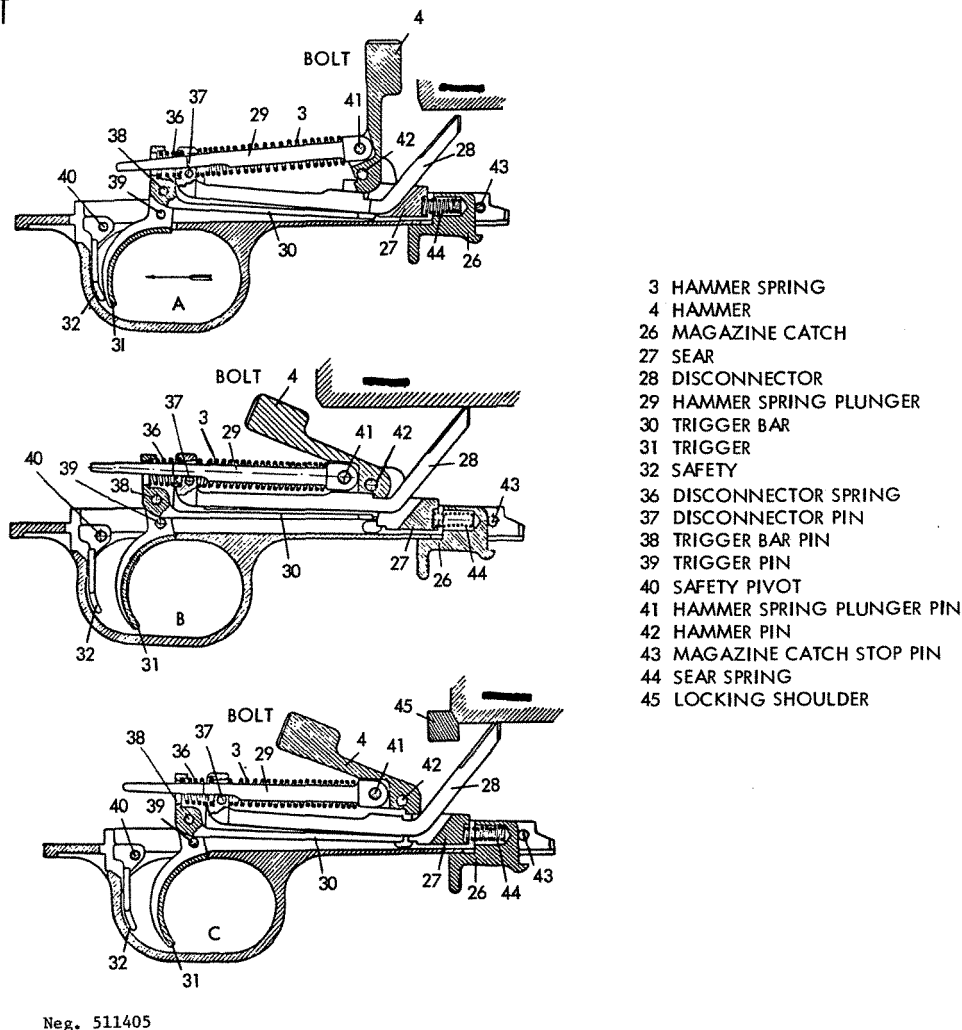

Figure 105. SKS trigger mechanism.
d. The SKS has a complicated trigger mechanism (fig 105). The hammer is cocked by the recoiling bolt and is held cocked by a sliding sear. The sear is disengaged from the hammer by a spring-loaded trigger bar pivoted to the top of the trigger. The vertical alignment of the trigger bar is controlled by the disconnecter; this, when depressed by the locking of the bolt,
presses down on the trigger bar and thus aligns the trigger bar and sear. Pressure on the trigger will force the trigger bar to move forward and disengage the sear from the hammer. The hammer swings forward to fire the rifle (A, fig 105), and as it does, a cam on the bottom of the hammer depresses the disconnecter, which in turn depresses the trigger bar below the sear. The sear spring forces the sear back against the hammer.
e. When the hammer is rocked back by the bolt, it strikes the disconnecter and depresses it. The disconnecter insures that the contact between the trigger bar and the sear is broken by depressing the trigger bar (B, fig 105). When the bolt
counterrecoils, the hammer moves forward slightly, off the disconnecter, which rises and allows the trigger bar to rise against the bottom of the sear (the disconnecter having risen to its highest point). When the trigger is released, the trigger bar moves rearward until it is clear of the sear, then it springs up (if the bolt is locked) against the disconnecter, and the rifle is ready for another shot (C, fig 105).
f. The disconnecter (B, fig 105) prevents the rifle from firing if the bolt is not fully locked. It does this in two ways: by its control of the position of the trigger bar; and by a notch in the disconnecter, which intercepts the sear notch of the hammer if the disconnecter is not fully depressed, such as when the bolt is not fully locked.